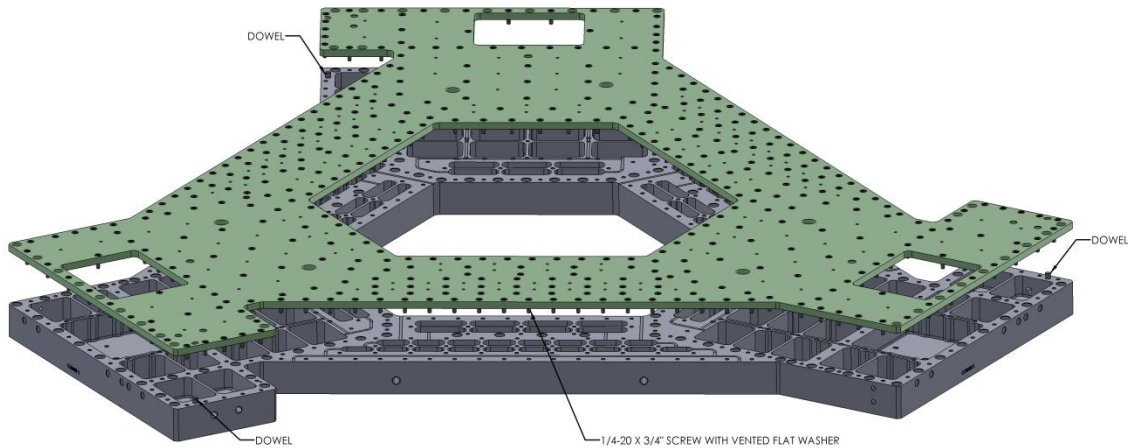

Figure 77: Positioning of D0902503 Stage 1 Close Out Plate Cover over D0902273 Stage 1 Close Out Plate
- Position D0902503 (counter bored surface facing up) over D0902273 as shown on Figure 77. D0902503 Stage 1 Close Out Plate Cover is located with (3) 3/8" x 1" dowel pins already pressed in D0902273 Stage 1 Close Out Plate.